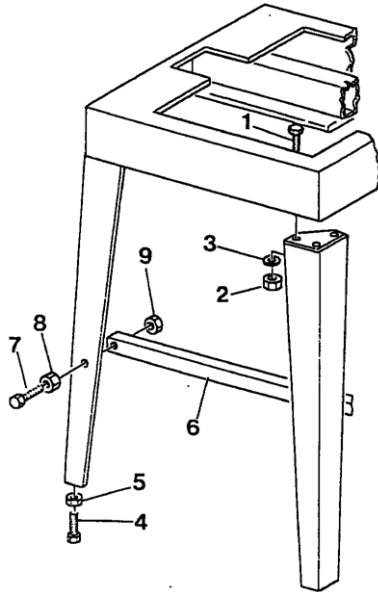

Fig. 1
Refer to Figures 1 through 25.
- 1) Fix the legs, making use of the screws (1) and the relative nuts (2) and washers (3) (see fig.1) Fix the two screws TE M10×30 (4) and its nut at the foot of the leg. The operation must be done on two legs of the same on the bench side. After having put the machine on a plane surface by working on the screws (4) lock the lock-nut (5) (see fig. 1.)